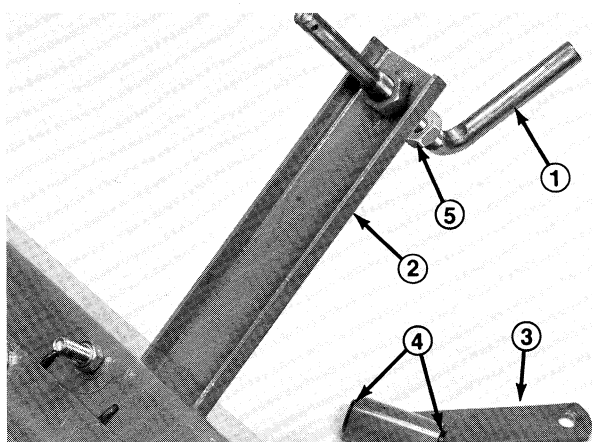

Figure 5
6. Thread jamnut halfway onto caster handle and screw caster adjustment handle into caster frame as shown in Figure 5.
7. Press bushings into ends of caster wheel bracket (Fig. 5).